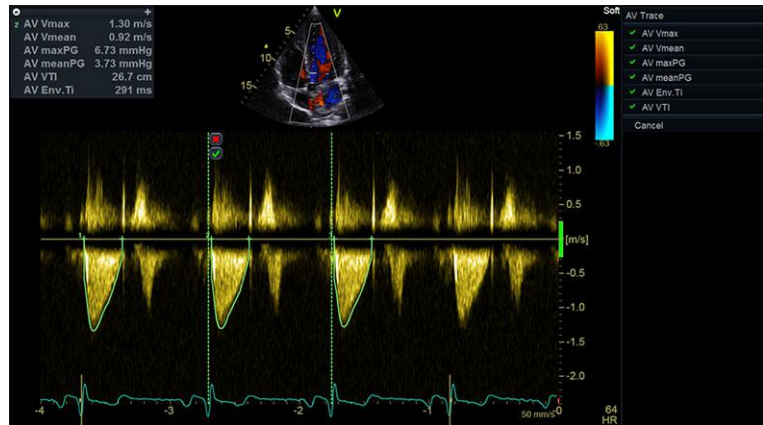

Figure 8-36. Reject or keep cycles
4. When hovering over a cycle, the cycle can be rejected or exclusively kept by selecting the corresponding symbol, see Figure 8-36. Press the **Recalc** button to restore rejected cycles.